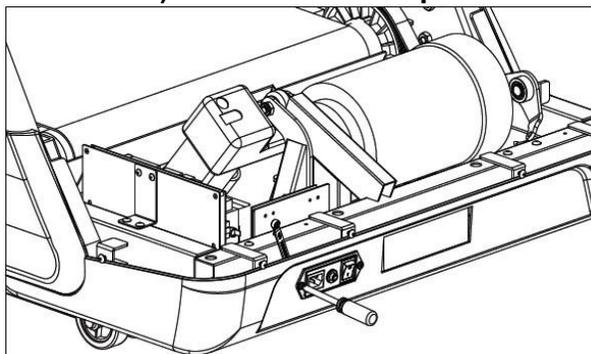

Figure 6.4.2
3) Remove the A/C power switch module and switchboard as shown in Figure 6.4.2.